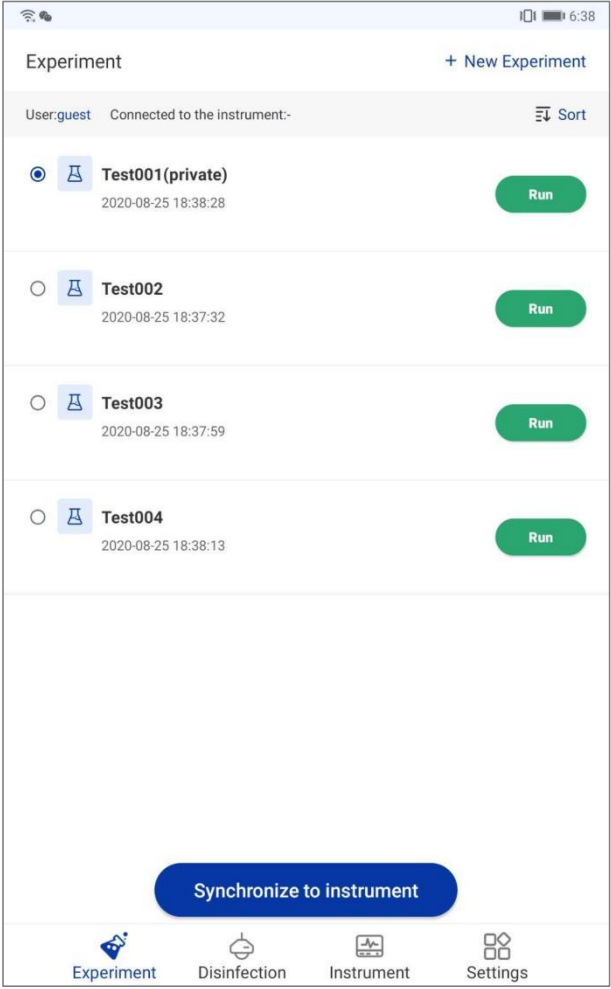

Figure 5-4. Experiment Interface - Synchronize to Instrument
1. **New Experiment:** click < + *New Experiment* > in the upper right corner of the experiment interface, the New experiment interface will pop up automatically, as shown in figure 5-4.
3. **Synchronize to instrument:** long-press any experiment on the experiment interface and click < *Synchronize to instrument* > to synchronize the current experiment from the application software to the instrument system, as shown in figure 5-4.